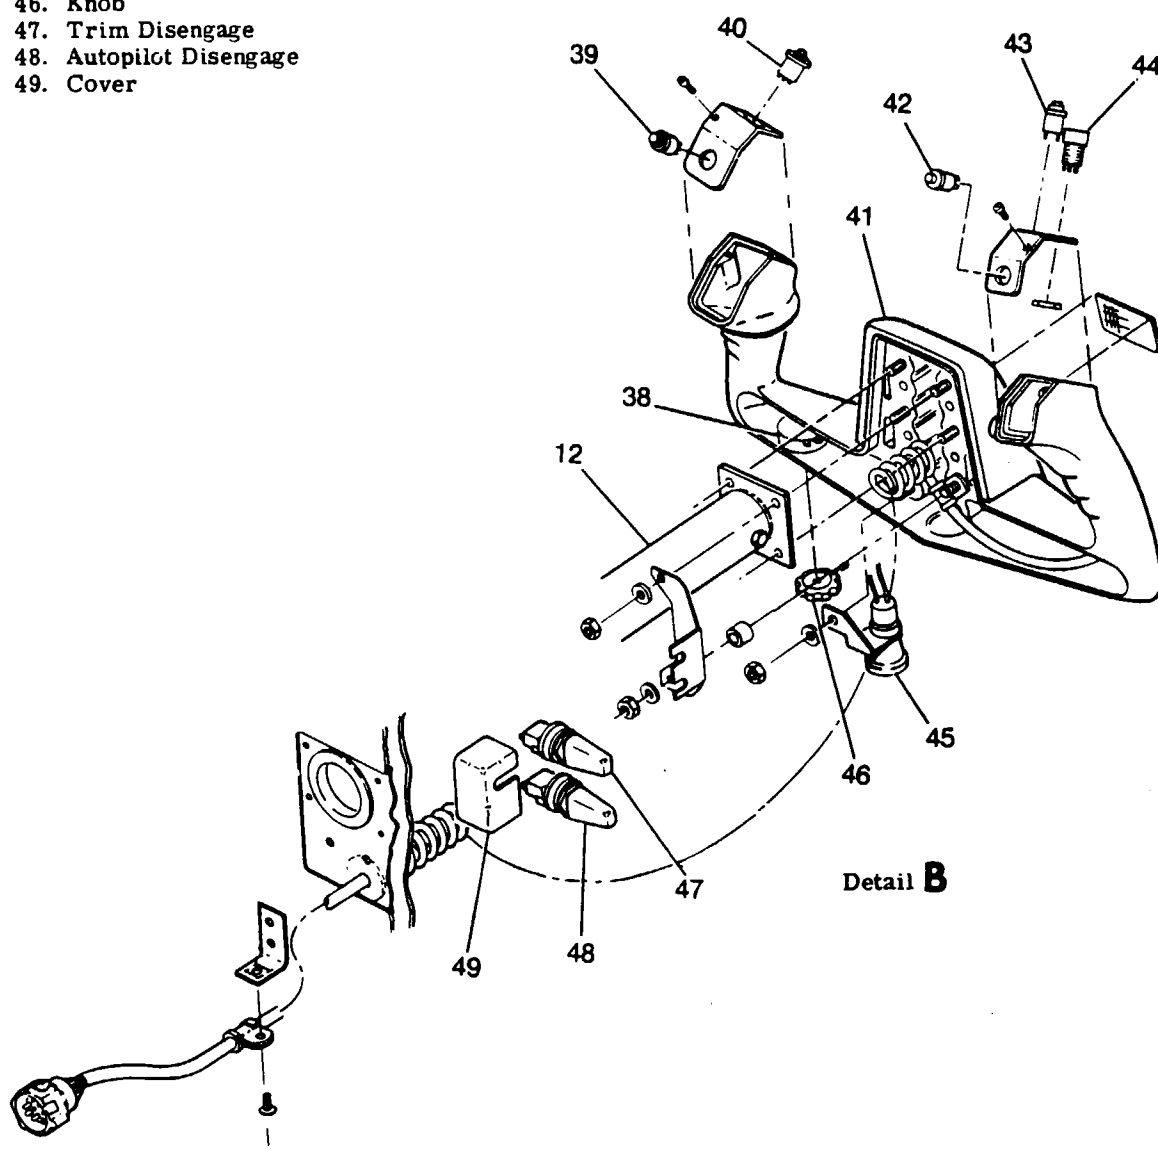

Figure 6-2. Control Column Installation (Sheet 3 of 3)
6-8. **BEARING ROLLER ADJUSTMENT.** (Refer to figure 6-2.) Each bearing assembly (11) has an 0.062 inch eccentric adjustment when installed, for aligning the control tube weld assembly and push-pull tube (18) with the guide assembly (23). For alignment: proceed as follows:
- b. Install cover plate (14) backwards (bearing on aft side) and leave loose with instrument panel.
c. Align control wheel tube assembly (12) for free travel of push-pull tube (18) along full length of guide assembly (23).
d. Center cover plate (14) over tube and bearing assembly and secure plate to instrument panel.
e. Adjust each bearing (11) to control wheel tube assembly and tighten bearings in place.